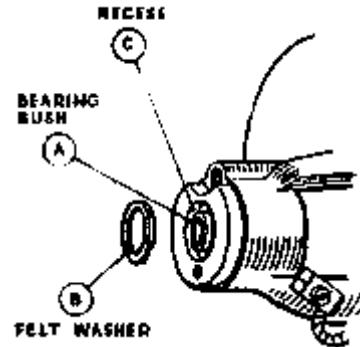

Fig. 63. Commutator end bracket with bearing bush.
- (a) Press the bearing bush (A, Fig. 63) out of the commutator end bracket and remove the felt ring (B).